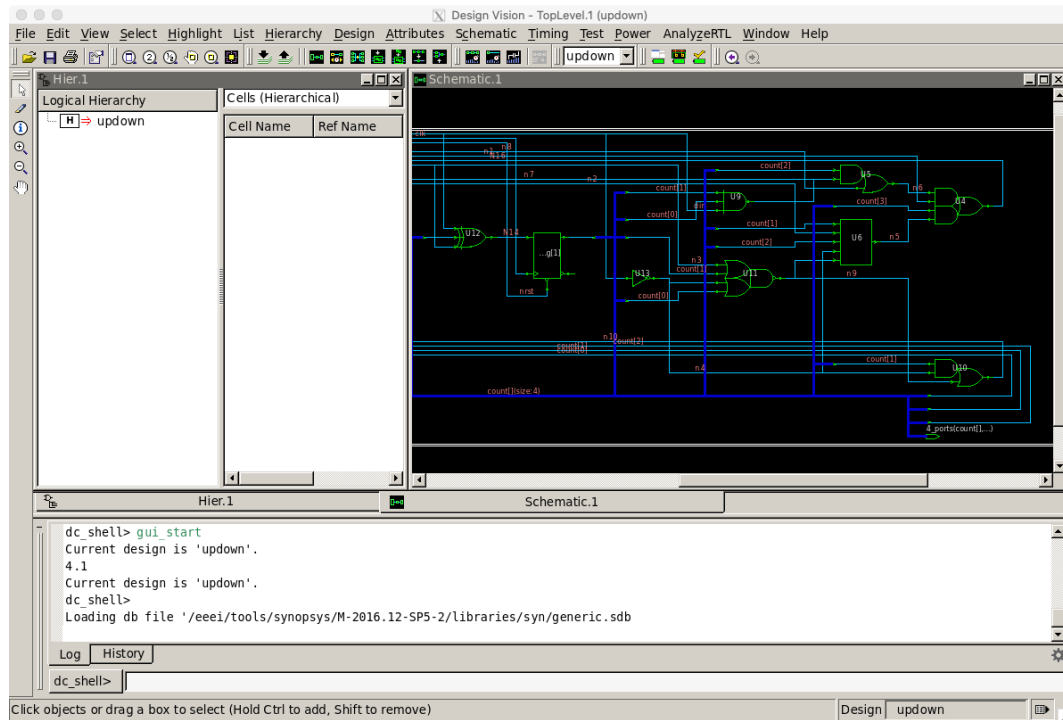

Figure 5: Schematic view of the synthesized design.
18. The schematic of the synthesized design should now be shown in the GUI. Since we are still viewing the top-level module, descend into the schematic by double-clicking on the top-level module (similar to the controls of DVE). You should see a window similar to the one shown in Figure 5. Take note that you can also zoom in and out to get a better view of the schematic.